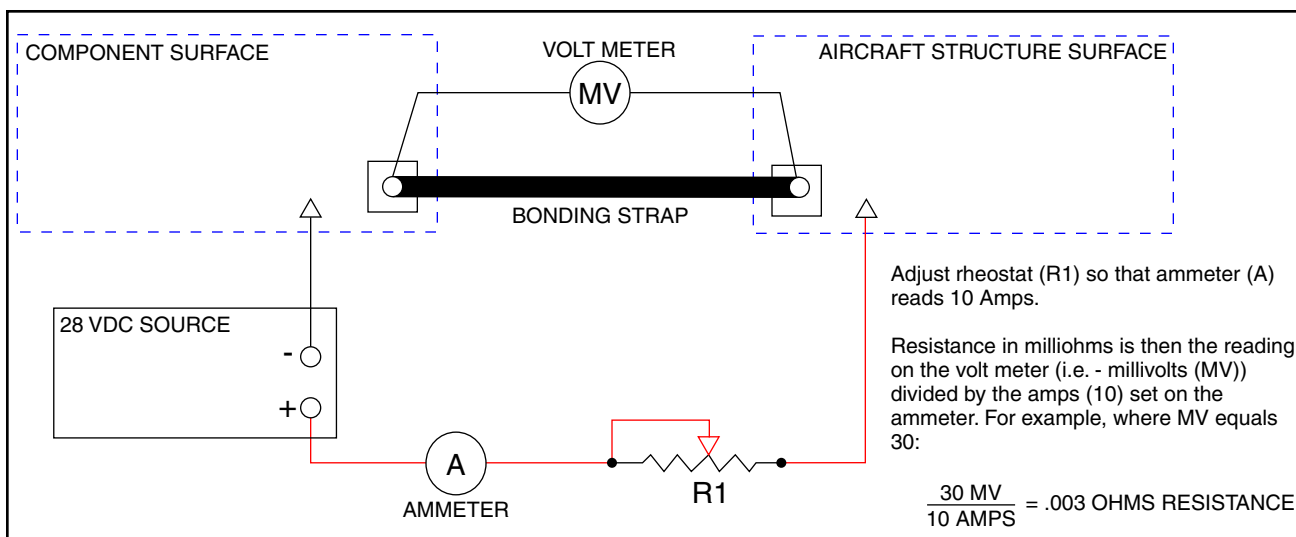

Figure 4-27. Millivolt Drop Test
3. Another method of measurement is the millivolt drop test as shown in Figure 4-27.